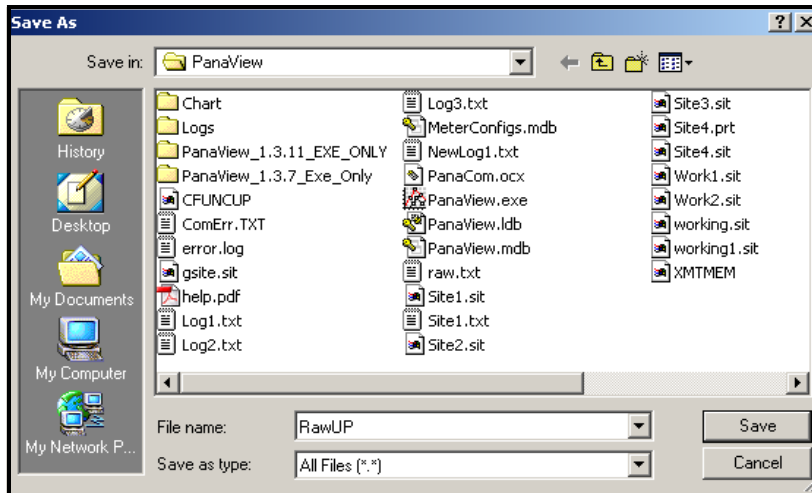

Figure 14: Saving Signal Array Data to File
- If you double-click on *To File*, another window opens similar to Figure 14. Enter a file name and click [Save]. PanaView stores the array data in a Windows file, and closes the *Calibration/Test* window.
- If you double-click on *To File*, the *Save As* window (similar to Figure 14 on page 29) opens. Enter a file name and click [Save]. PanaView stores the array data in a Windows file, and closes the *Calibration/Test* window.